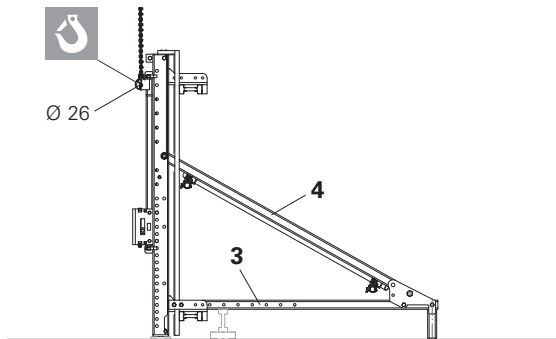
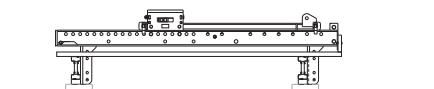

Fig. A6.04
Fig. A6.05
(Fig. A6.04)
3. Set up platform unit, place on supports, and hold platform unit in position with crane. (Fig. A6.04)
5. Dismantle Vertical Struts (3) and Diagonal Struts (4).
6. Horizontally position working platform. (Fig. A6.05)